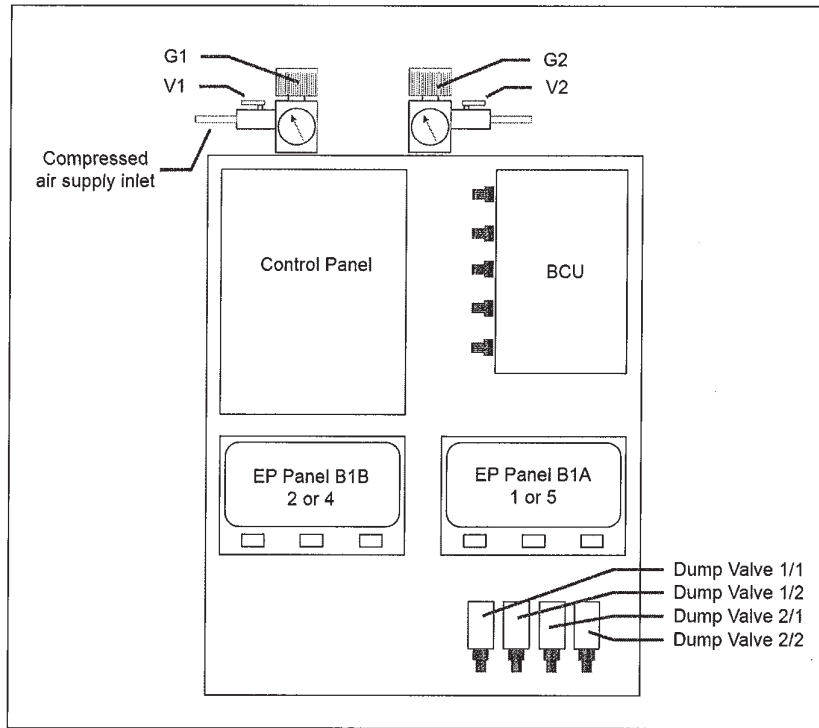

Figure 7.1: Equipment Arrangement
Note: The green elements in Figure 7.1 are the correct position of electrical connectors viewed from front of the test bench.
- 5) The position of EP Panels and dump valves must be correct for proper operation of this test bench. Refer Figure 7.1 for details.
One BCU, two EP Panels with load valve (cannot be same type) and four dump valves are required to operate the test bench. Each equipment must be secure firmly on the bench structure based on screw holes provided. No temporary jointing are allowed. Note that some installation must be carried out by two person due to heavy equipment weight. Refer Figure 7.1 for assembly layout.
- 1) Attach all braking equipment to designated places throughout the test bench as illustrated in Figure 7.1.